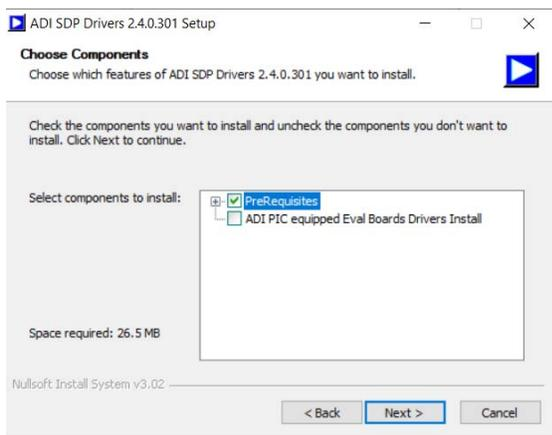

Figure 8. SDP Component Selection
- 3. The **Choose Components** window then appears with default components preselected. Click **Next** (see Figure 8).